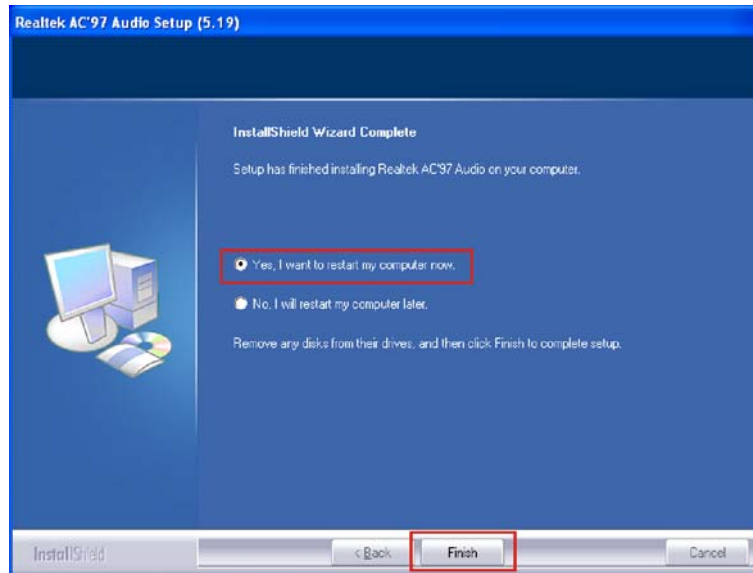

Figure 7-24: AC'97 Driver Installation Complete
Step 9: When the driver is installed, the driver installation finish screen in **Figure 7-24** appears.